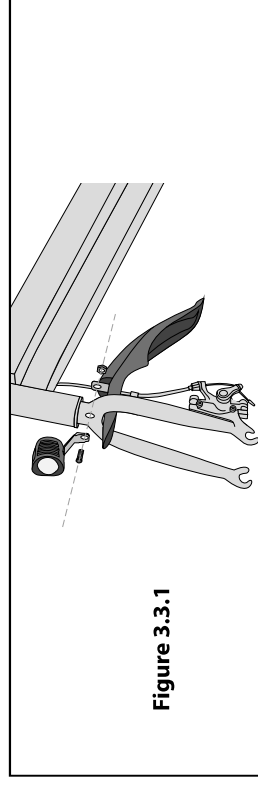

Figure 3.3.1
3. Step 3: Install the headlights and mudguard onto the front fork using screws and nuts from the fitting. (As: Figure 3.3.1 & 3.3.2).